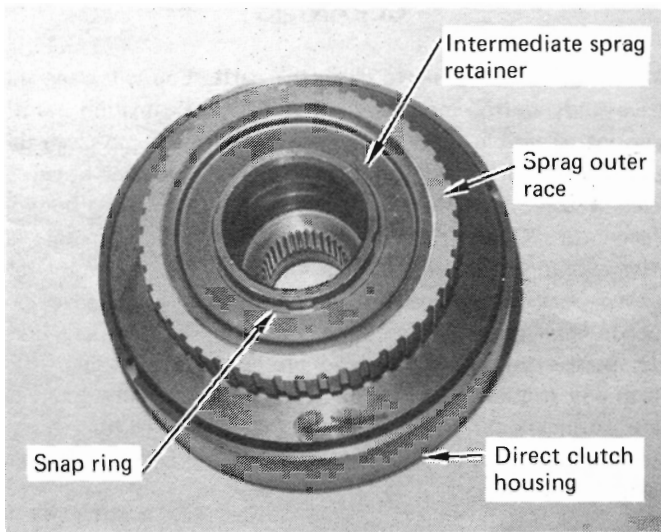
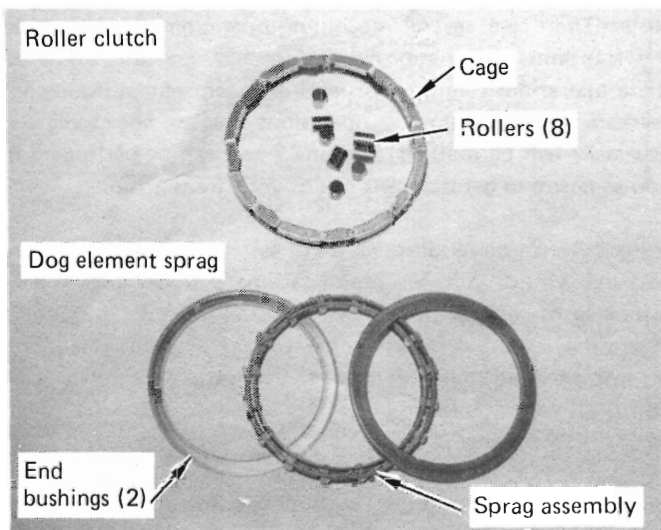

FIGURE 23
FIGURE 24
STEP 3. Turn the housing over and remove the intermediate overrunning clutch retainer and the intermediate overrunning clutch. (See Fig. 23) There are two types: The more common dog element sprag with end bushings or the late model eight element roller clutch. (See Fig. 24) The rollers may be removed from the cage for cleaning so they don't get lost. Do not remove elements from the dog-type clutch. The direct clutch assembly is now ready to clean.